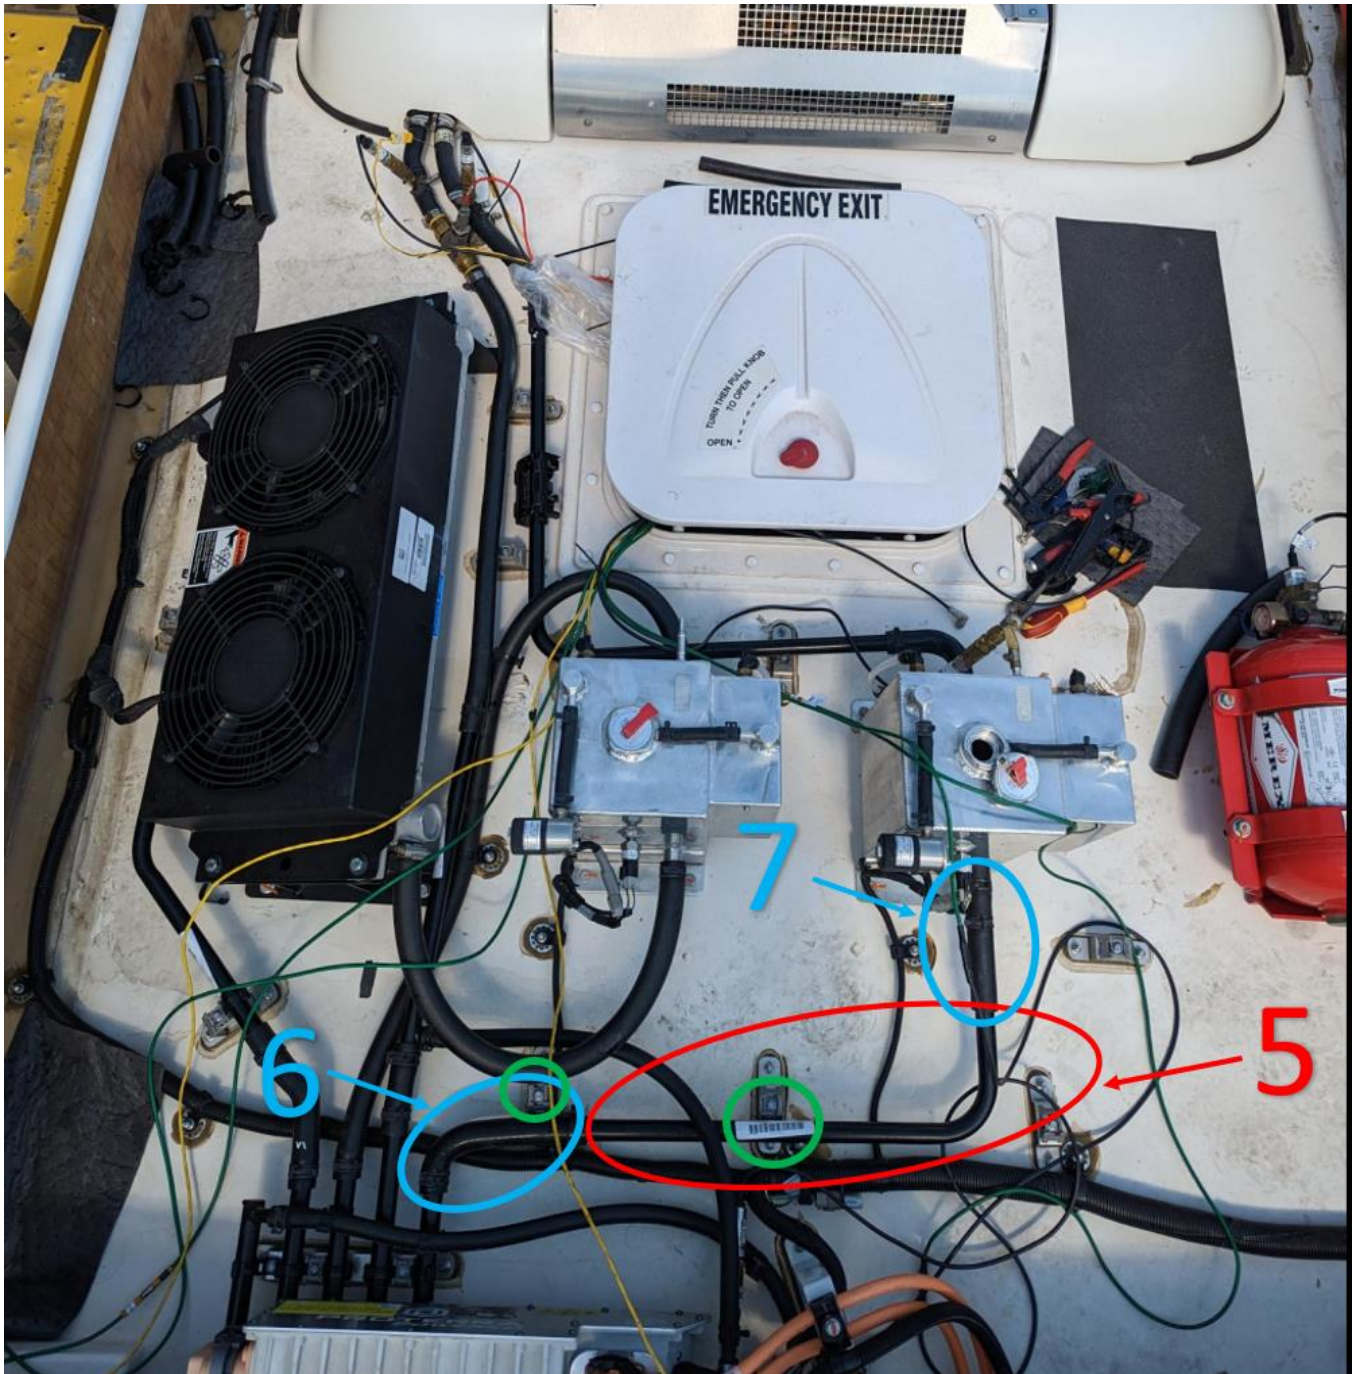

Figure 6
- Reference Figure 6 for part callouts. Attach the #5 "L" hardline to the #6 flexible hose still attached to the battery so that the short end of the "L" points towards the battery chiller and secure with a spring clamp. Measure and cut the #7 flexible hose attached to the expansion tank and connect to the short end of the #5 hardline. Secure with a spring clamp. Secure the the coolant lines with zip ties circled in green.